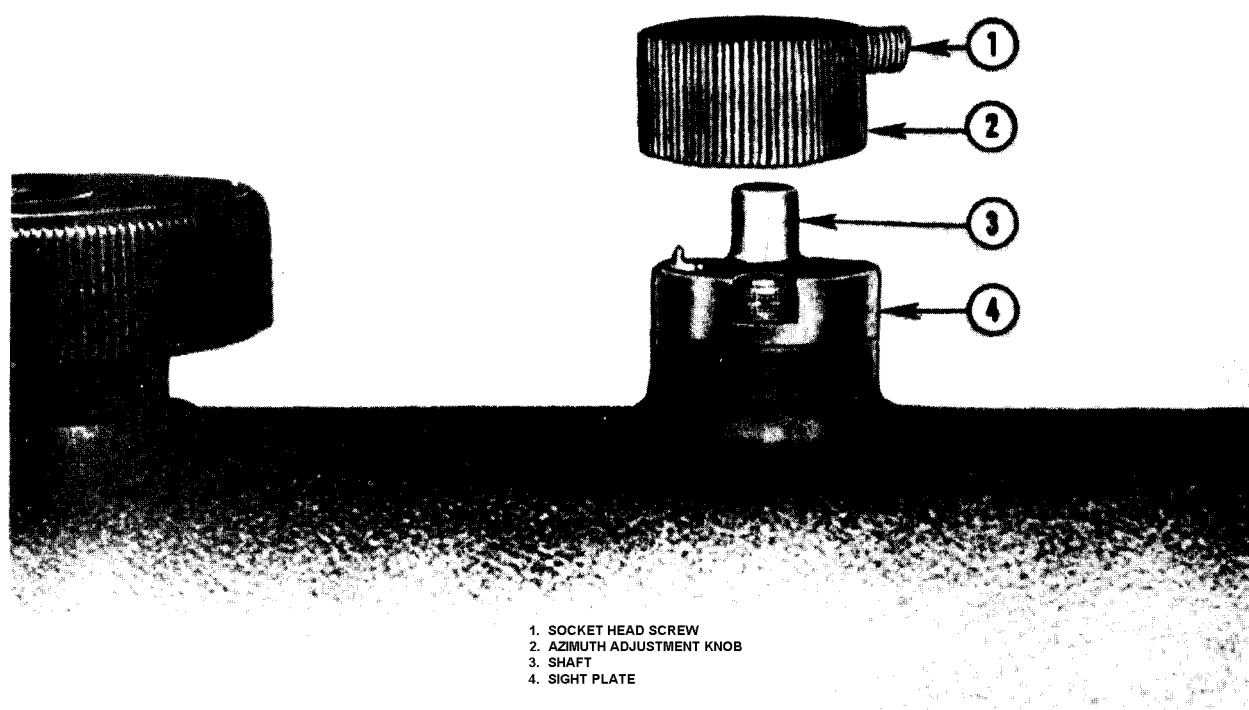

Figure 5. Removal of azimuth adjustment knob.
- (3) The azimuth adjustment knob is removed by using the allen wrench to loosen the socket head screw located on the side of the knob. Lift the knob from the sight plate (fig. 5).